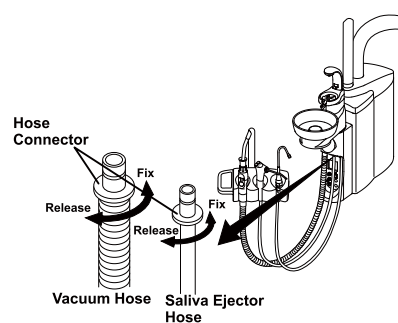

Fig.5-6 Vacuum and Saliva Ejector Hose
(5) Vacuum hose and saliva ejector hose are detachable from the cuspidor unit (**Fig.5-6**)